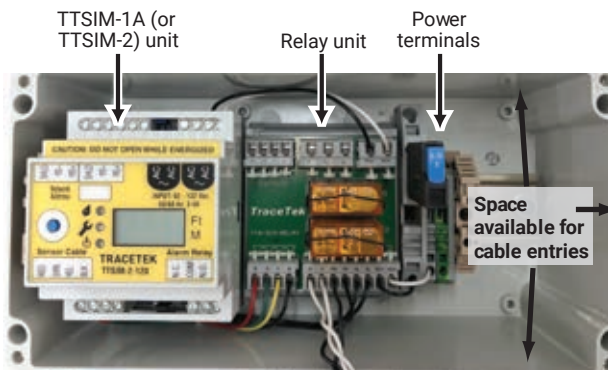

Figure 2. Cable entry locations
- Plan cable/conduit alignment and drill holes as necessary. Cable entries should all be located in the open space at the right hand of the TTA-SIM (see Figure 2). A typical installation will require holes to accommodate the following cabling: